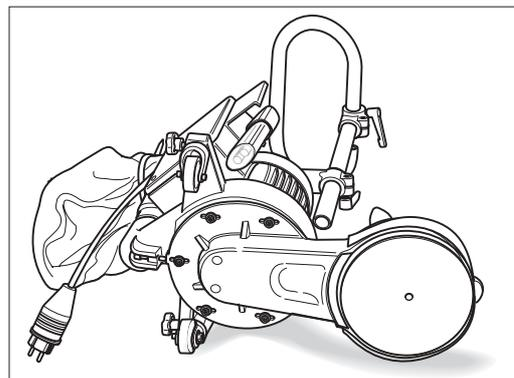

Fig. 44: Place the UNICO down on the **left-hand** side only.
**Always** set the UNICO down on the **left-hand** side (Fig. 44)! This will prevent damage to the floor.